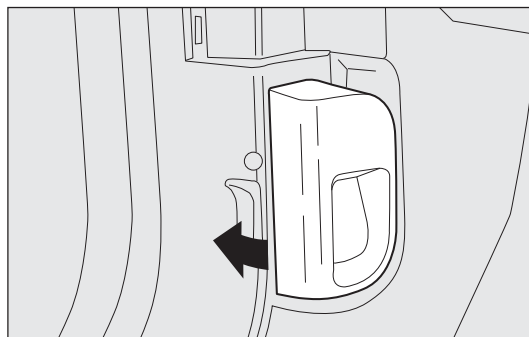

fig. 108
- pull the lever fig. 108 in the direction of the arrow;